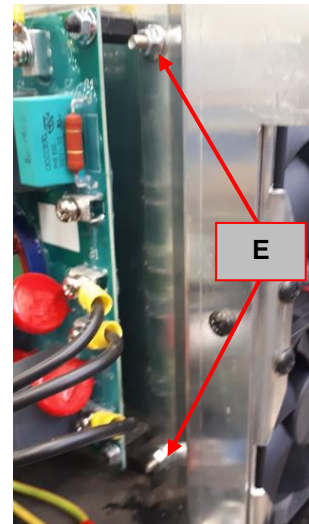

Figure 46
9. Using the 7mm wrench remove the 2 bolts (**E**). See **Figure 46**